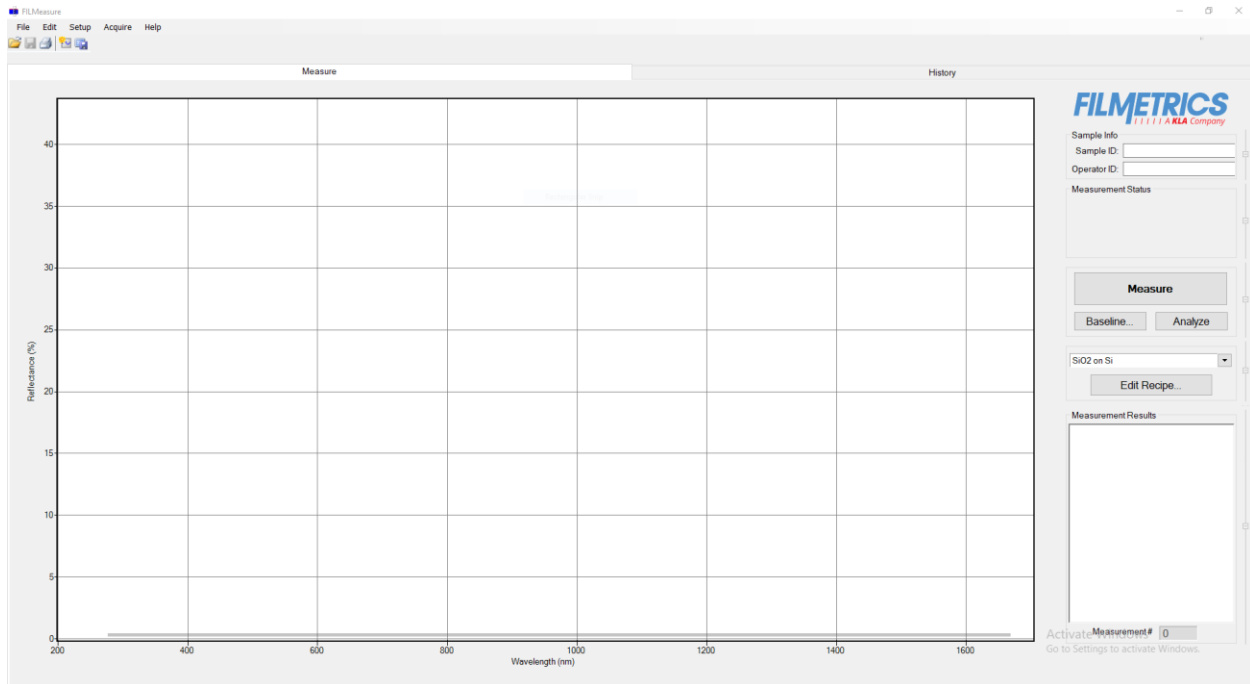

Figure 3. “Measure” Tab of FILMeasure Software
2. Open the Filmetrics "FILMeasure" software. The software start page is shown in Figure 3, with two tabs at the top: "Measure" and "History."